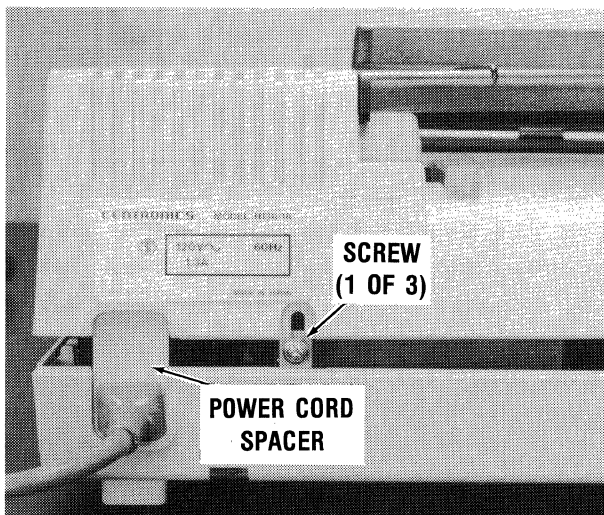

Figure 2-8 Left Rear View of Printer
Three DIP (Dual Inline Package) switches on the logic PCB control some of the characteristics of the printer. Normally, once the mode of operation is set, the switches remain in the positions set initially. The functions controlled by these switches become active when power is turned ON. Refer to Figures 2-8, 2-9 and 2-10 (see CAUTION).
4. Loosen 3 screws at rear of printer (Figures 2-8, 2-9).